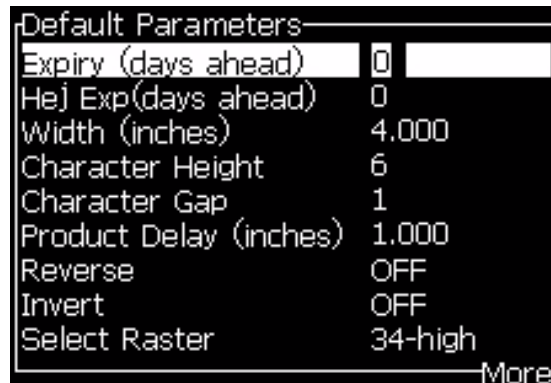

Figure 5-16: Default Parameters Dialog Box
The different parameters that are available (*Messages > Default Parameters*) are shown in Table 5-12, and Figure 5-16 on page 5-27.
- 2 Select the *Default Parameters* (Figure 5-16 on page 5-27) to edit the values.